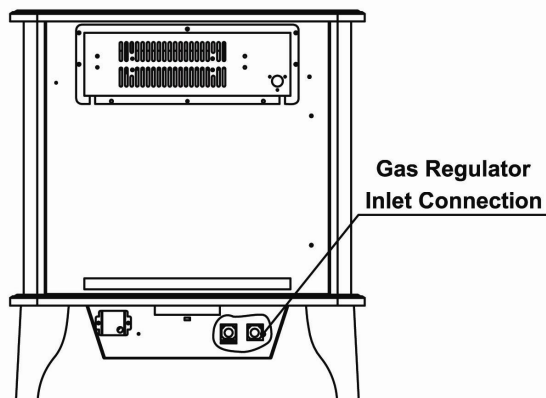

Figure 5 - Gas Regulator Location and Gas Line Access into Stove Cabinet
**⚠ WARNING:** This appliance requires a 3/8 in. NPT inlet connection to pressure regulator (see Figure 5).